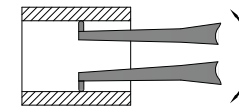
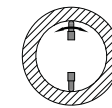

Fig.2
Fig.3
4. During measurement, press handle to make distance between two measuring heads less than the hole's diameter. And then put caliper gage into the measured hole, release handle to make measuring heads to contact the hole completely, shake caliper gage gently along hole's axial direction and radial direction to find the minimum reading in axial direction(Fig.2) and the maximum reading in radial direction(Fig.3), then get the result. When measuring width, it is to find minimum reading to get the result.